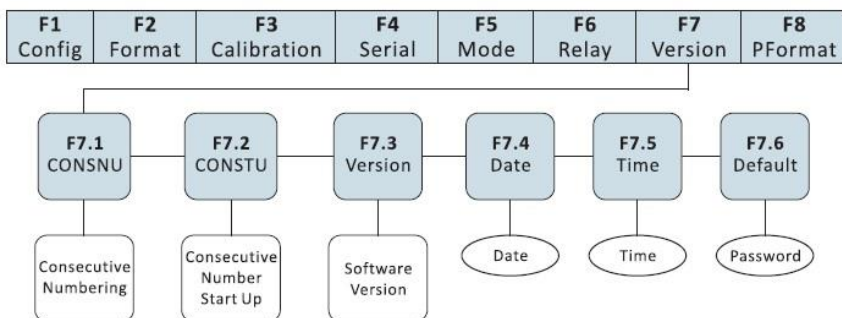

Fig. 13.4 Consecutive Numbering Setup
- (1) Switch the indicator into Configurations mode.
- (2) Press  multiple times until display shows “F7”. Press  to go to F7.1 Menu then press  to go to F7.4.
- (3) When display shows “F7.4” (see Fig. 13.4). Press  to enter into Date setup mode and display will show like “00.00.00”. The date format is “DD.MM.YY”.
- (4) When date setup is completed, press  to save settings and display will show F7.5.
- (5) When display shows “F7.5”, press  to enter into time setup mode and display will show like “00.00.00”. The time format is “HH.MM.SS”.
- (6) When completed, press  to save settings and display will go to F7.6 Menu.
- (7) Move back the jumper of SW2 to DFT to exit from Configurations mode.